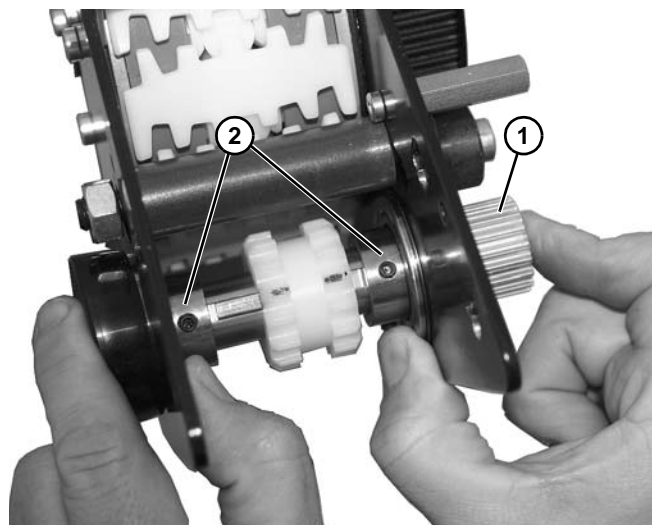

Figure 172
1. Install drive shaft (**Figure 172, item 1**) on two bearings (**Figure 172, item 2**) and press outward as shown.